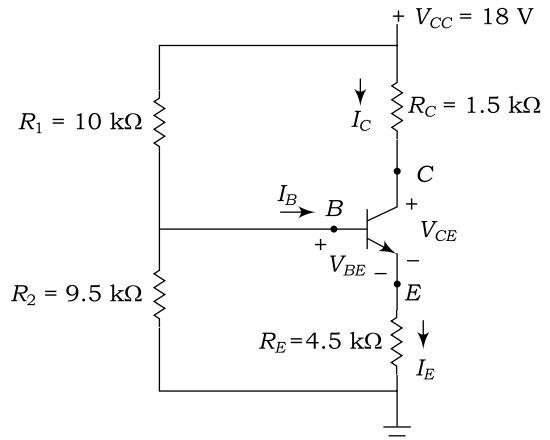

Fig. 2.122
49. Figure 2.122 shows the voltage-divider bias circuit. Determine the emitter current and collector to emitter voltage. Calculate the collector potential V_C . Assume $V_{BE} = 0.7$ V and $\beta = 70$.